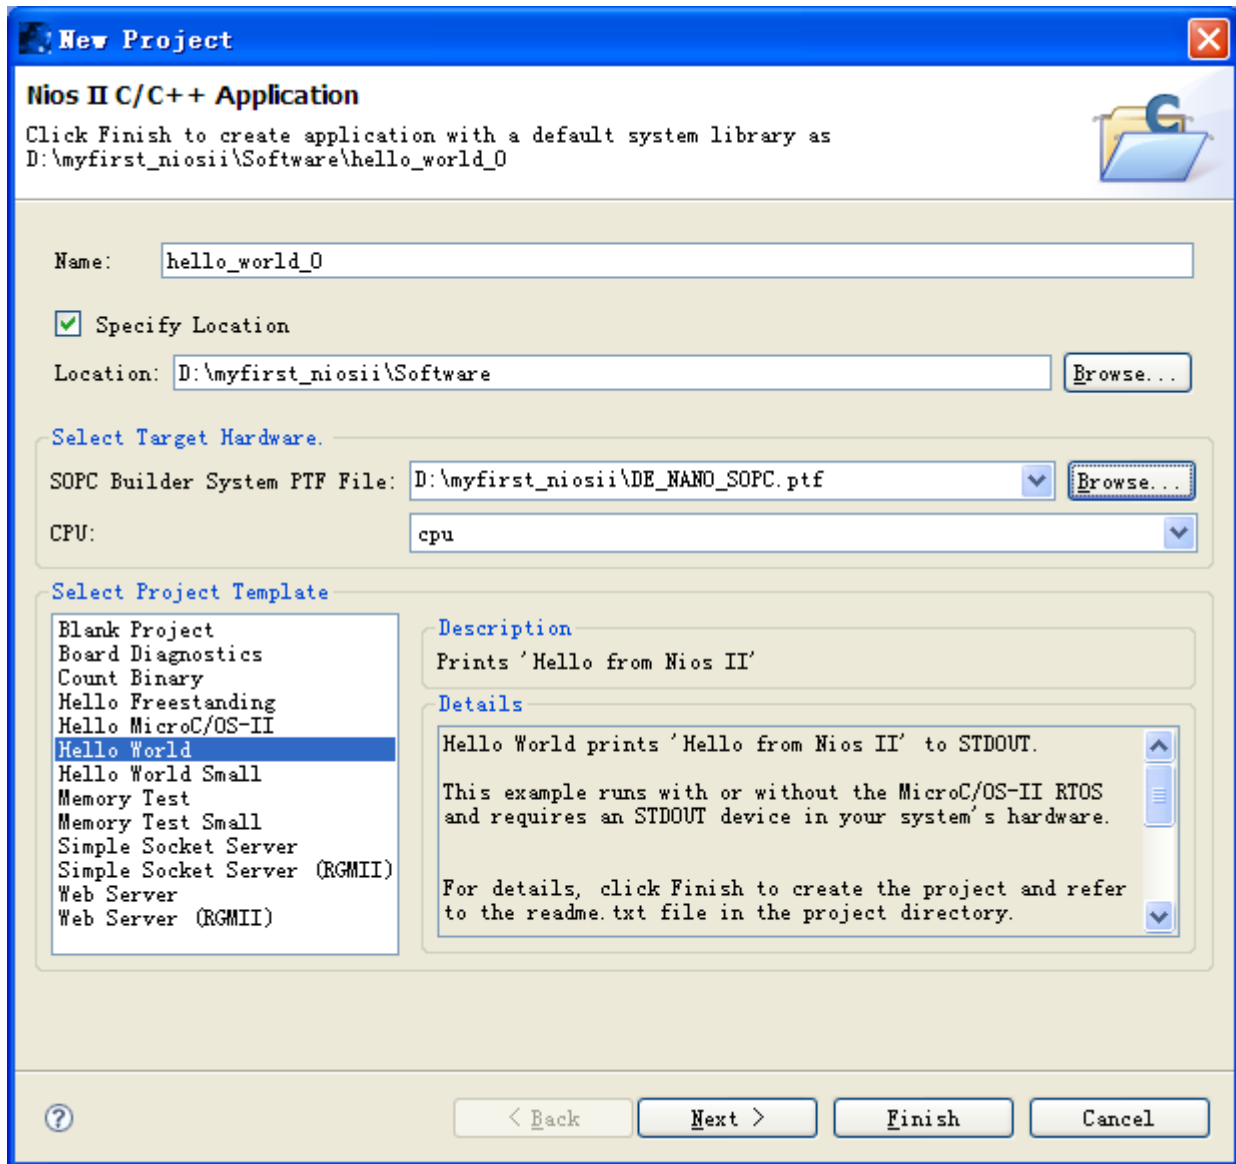

Figure 7-55 Nios II IDE New Project Wizard
- c. Select the target hardware system's PTF file that is located in the previously created hardware project directory, as shown in **Figure 7-55**.